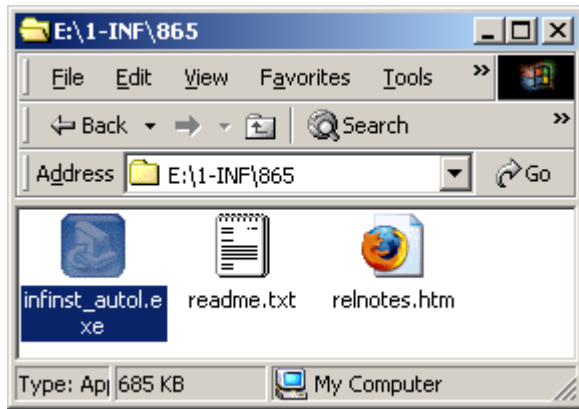

Figure 7-2: Chipset Driver Installation Program
Step 4: A new window opens (**Figure 7-2**).